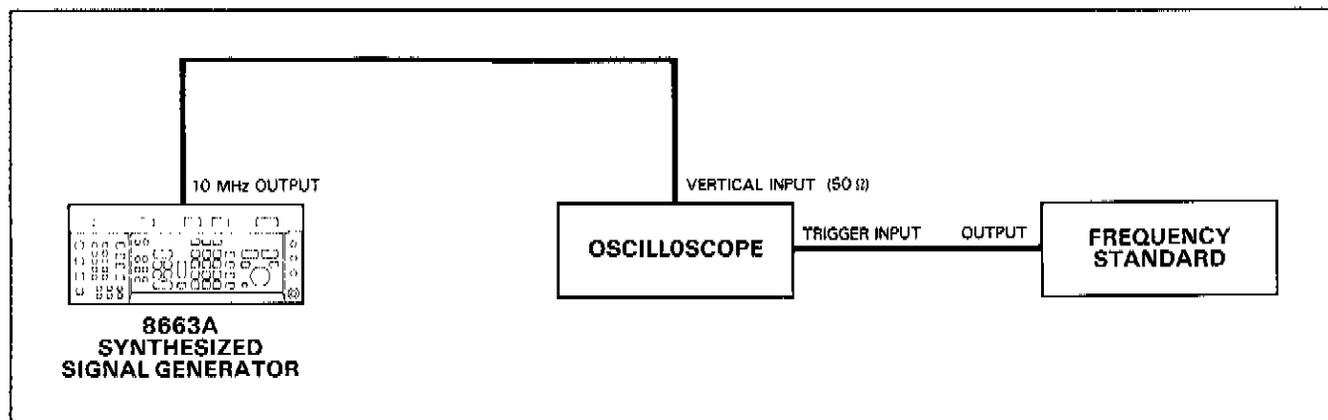

Figure 4-13. Internal Time Base Aging Rate Test Setup
2. Connect the instruments shown in Figure 4-13.